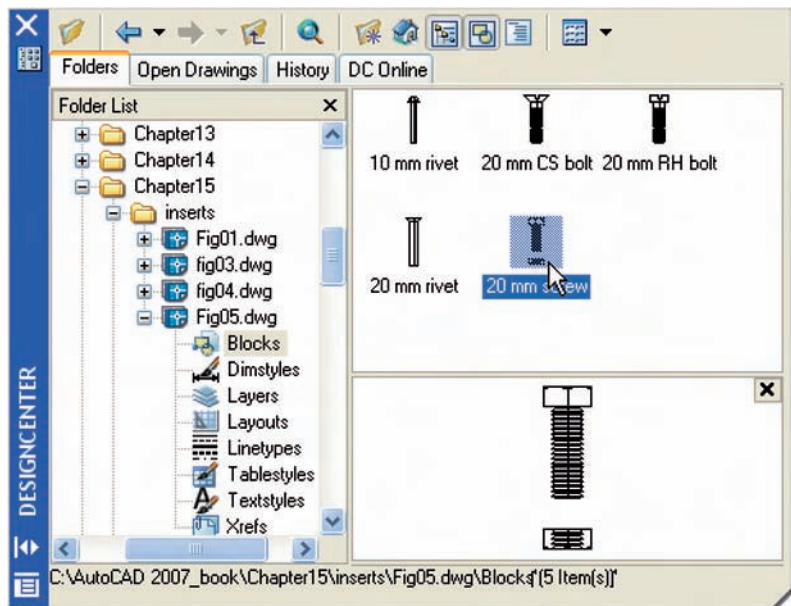

Fig. 15.6 Second example – a library of fastenings
Second example – a library of fastenings (Fig. 15.6)
2. Open the DesignCenter, *click* on the **Chapter15** directory, followed by a *click* on **Fig05.dwg**. Then *click* again on **Blocks** in the content list of **Fig05.dwg**. The five 3D models of fastenings appear as icons in the right-hand side of the DesignCenter (Fig. 15.6).